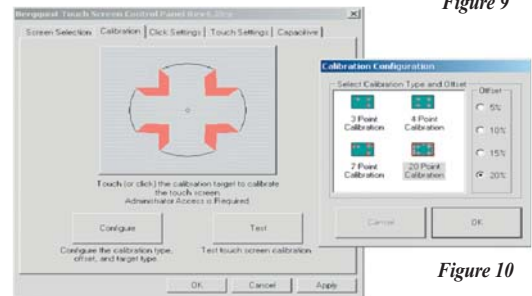

Figure 10
2. Click "Configure." The **Calibration Options** screen will appear (see Figure 10).
1. Click on the large calibration target (see Figure 10) to begin the calibration process.